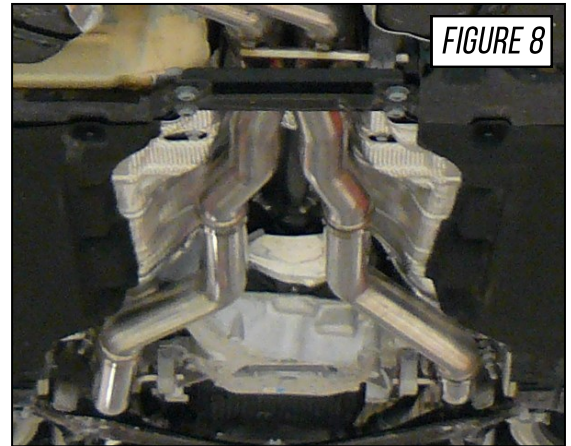

FIGURE 8
Place two (2) 2.5" Accu-Seal clamps over each inlet side of the downpipe lower sections (Track Edition parts A12 & A13, Touring Edition parts A32 & A33), install into place as shown on the Track Edition system in **Figure 8**. Be sure to fully seat the pipes over the corresponding downpipe upper sections outlet pipe.